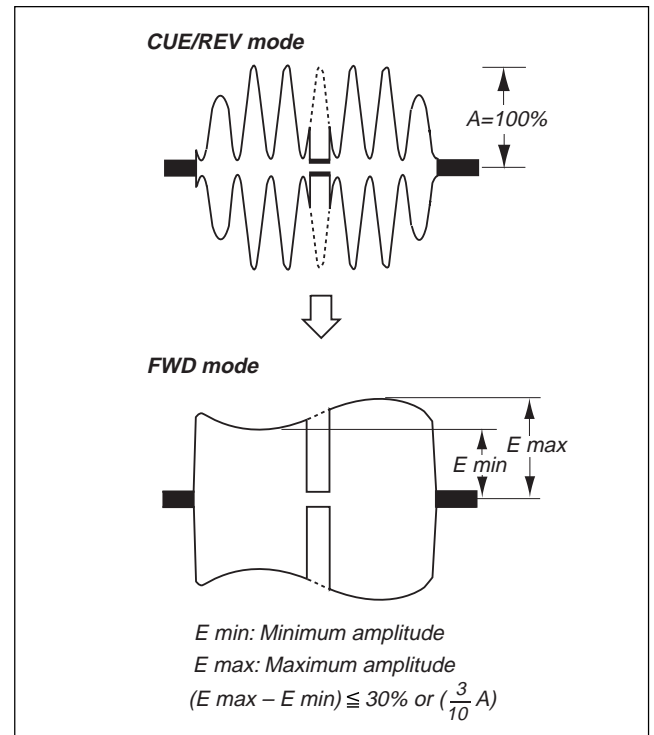

Fig. 4-11
- 2) Establish the CUE (or REV) mode. Take the amplitude (A) in this mode as the 100% waveform amplitude. (Refer to Fig. 4-11.)
- 3) Establish the FWD mode. Confirm that the difference between the minimum (E min) and the maximum (E max) is less than 30%. (When taking the amplitude (A) in the CUE or REV mode as 100%)